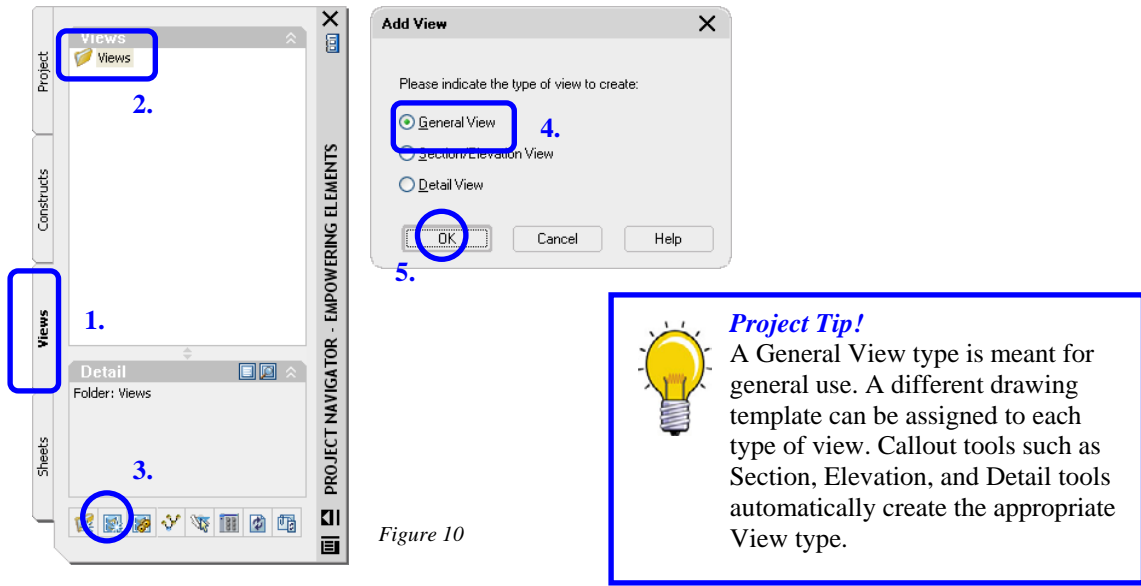

Figure 10
5. Click the **OK** button to begin the **Add General View** wizard. *Figure 10*